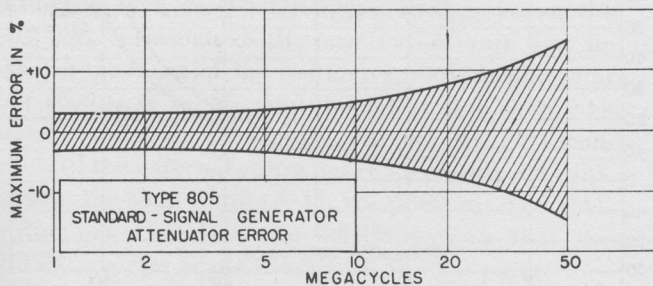

Figure 7. Maximum attenuator error as a function of frequency.
**3.13 Attenuator Error:** A maximum variation of  $\pm 1\%$  occurs in the adjustment of individual resistors in the attenuator. Variations in the reactance of these resistors, however, is more important and accounts for most of the frequency error, which rises to  $\pm 15\%$  at 50 Mc. Figure 7 shows this maximum error as a function of frequency.